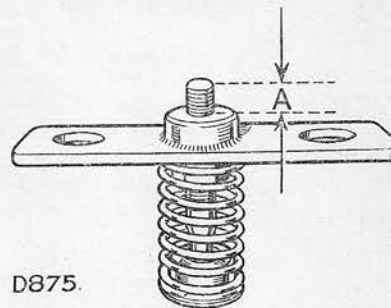

Fig. 2. Adjustment of lock bolt.
- Slacken lock nut and adjust lock bolt until it protrudes through the plate approximately ½ in. (12,5 mm). See Fig. 2.